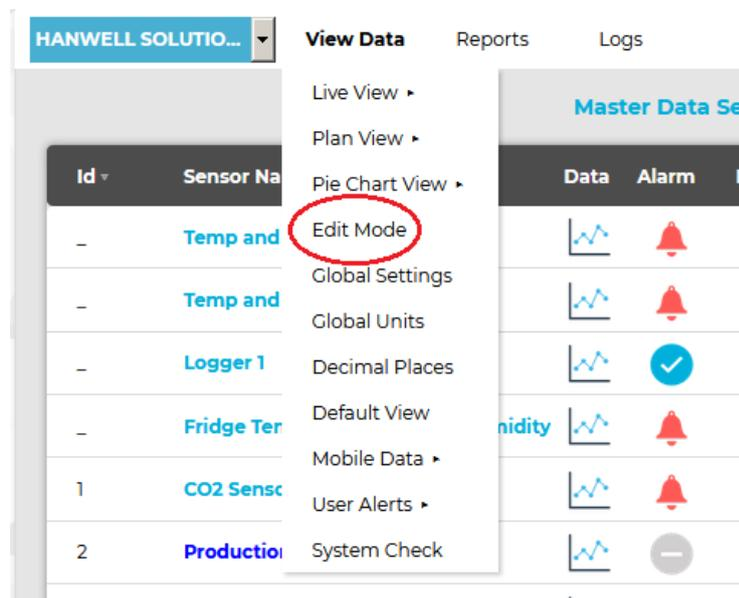

Figure 3
1. Select **Edit Mode** from the main **View Data** menu. See Figure 3 below: